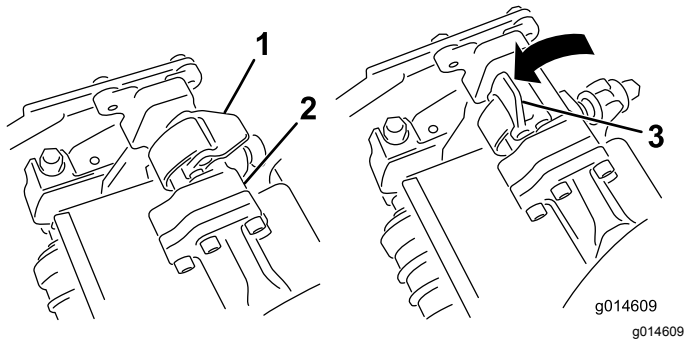
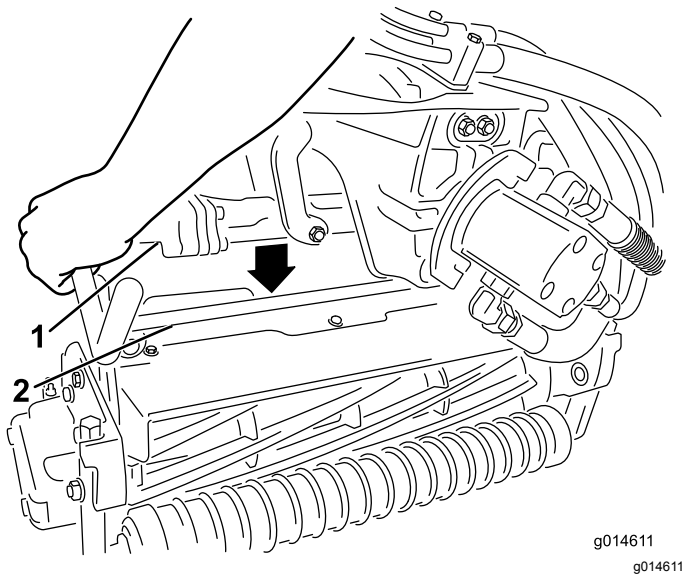

Figure 11
Figure 12
- With the latches on the suspension-arm bar pointing up (i.e., open) (Figure 11), push the suspension arm down so that the bar fits over the bar across the top of the cutting unit (Figure 12).
- Close the latches down and around the cutting-unit bar and lock them in place (Figure 11).